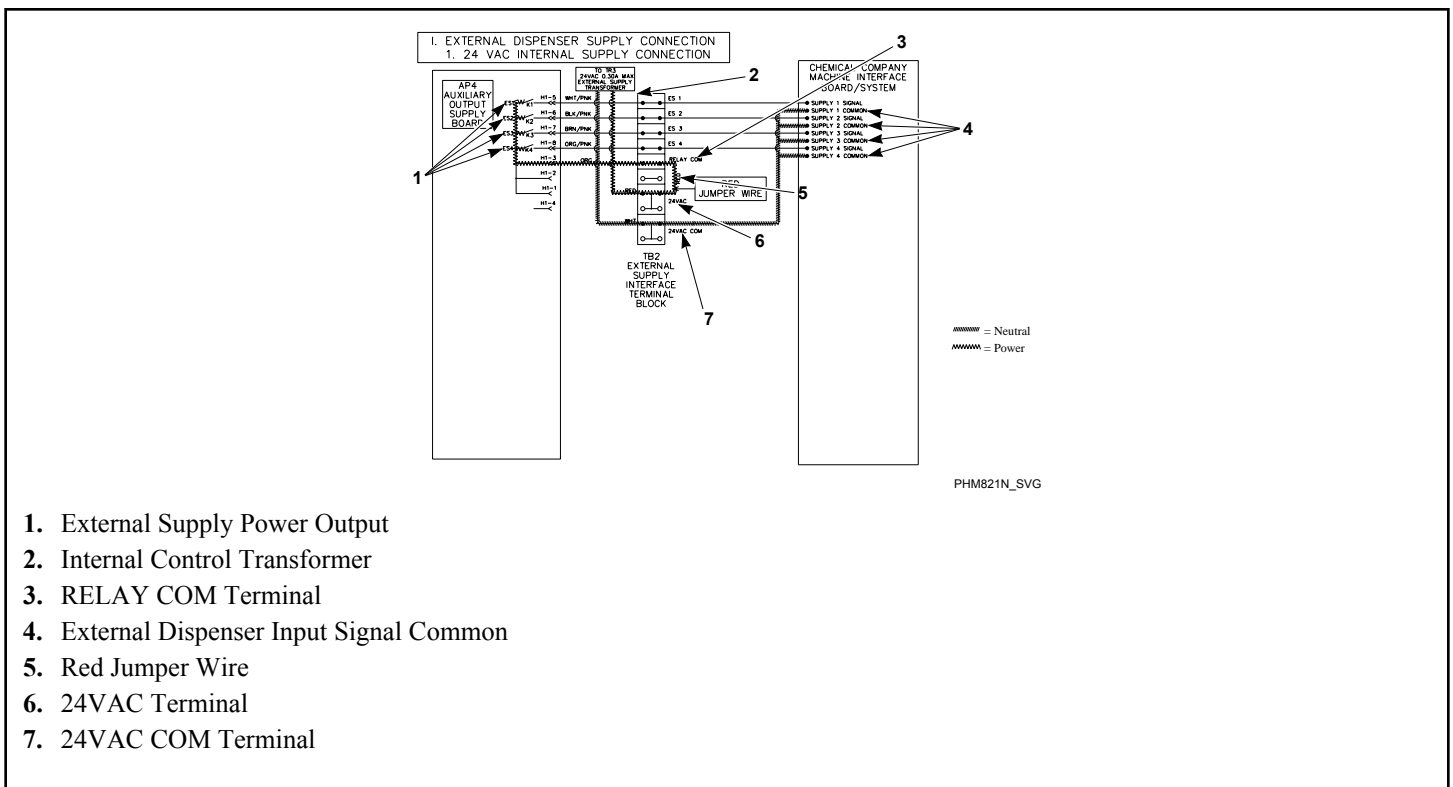

Figure 25
- The second terminal is used to connect the other side of the control transformer to the machine output signals common through a red jumper wire between "24VAC" and "RELAY COM". Refer to *Figure 25*.